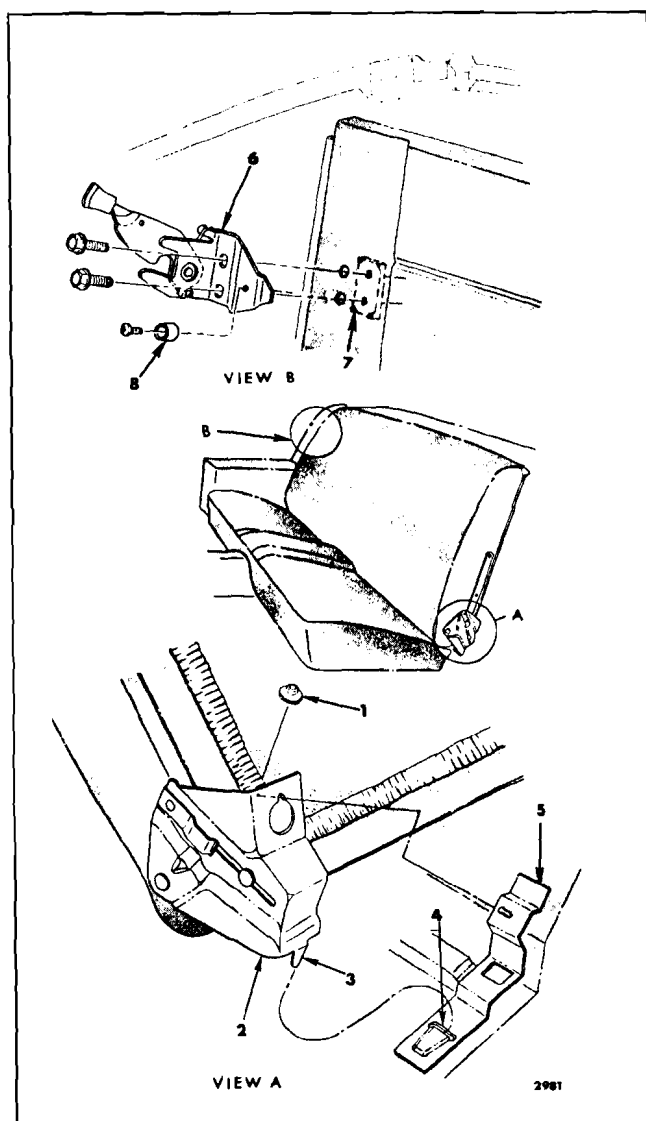

Fig. 15-59—Folding Rear Seat Back Assembly - "F" Body Styles
2. At both right and left seat back link, remove stud nut securing seat back link to anchor plate on floor pan (Fig. 15-59).
3. Lift seat back assembly upward to disengage tab of link from slot in anchor plate (Fig. 15-59) and remove seat back assembly from body.
2. Remove rubber bumper (Fig. 15-59) and remove compartment front trim foundation.
4. While holding the lock anchor plate on the back side of the seat back support, remove lock attaching screws (Fig. 15-59, View "B") and remove lock and anchor plate.